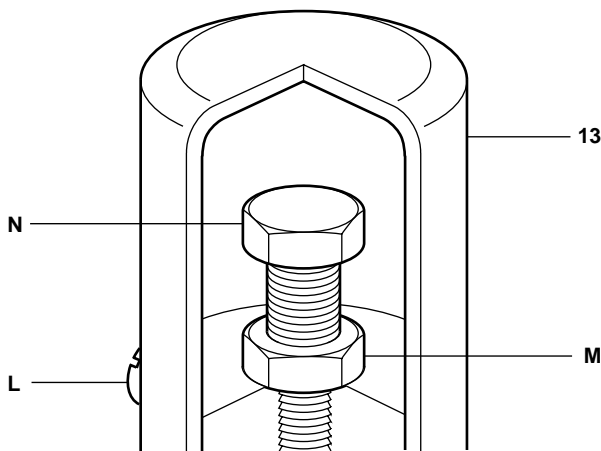

Fig. 5
- Remove the adjustment head cover (13, Figure 5) by undoing the two screws (L) and slacken the lock-nut (M).